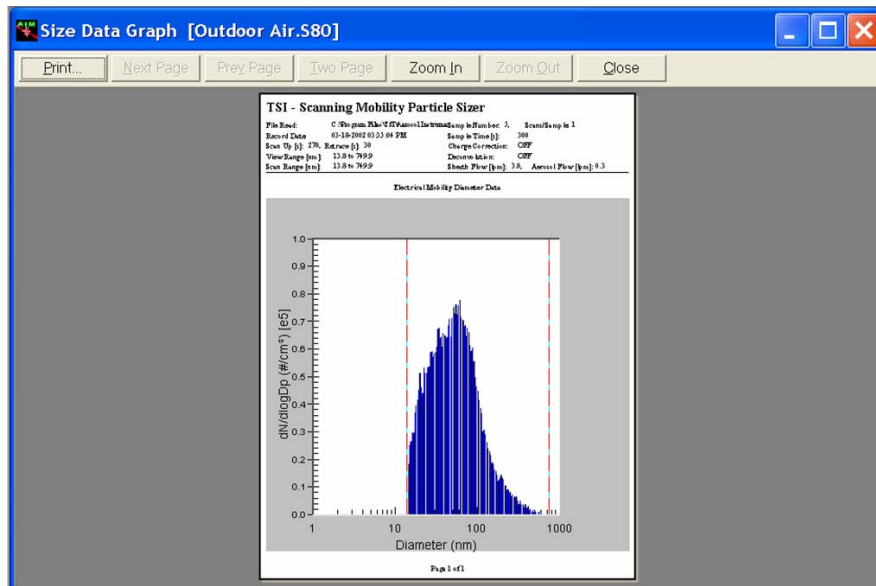

Figure 3-4
2. Review that what you see in the print preview window is what you want to print (an example is shown in Figure 3-4), and then select **Print** from the Preview box. The contents of the window are sent to your printer.